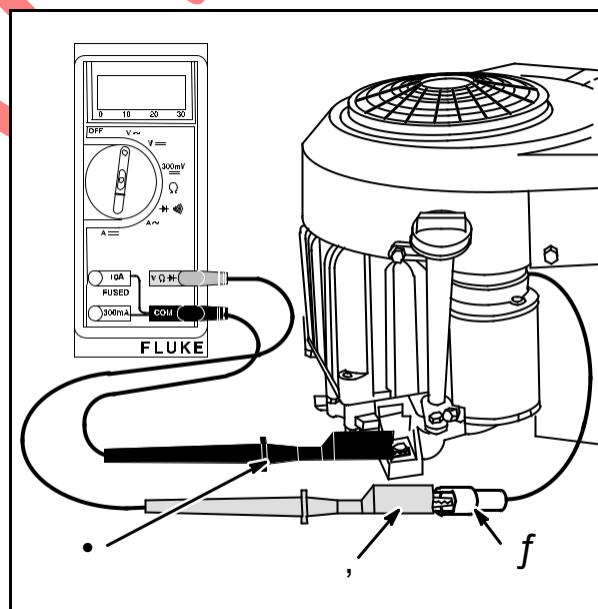

Fig. 11
Attach RED test lead clip to AC output terminal (3), **Fig. 11**.